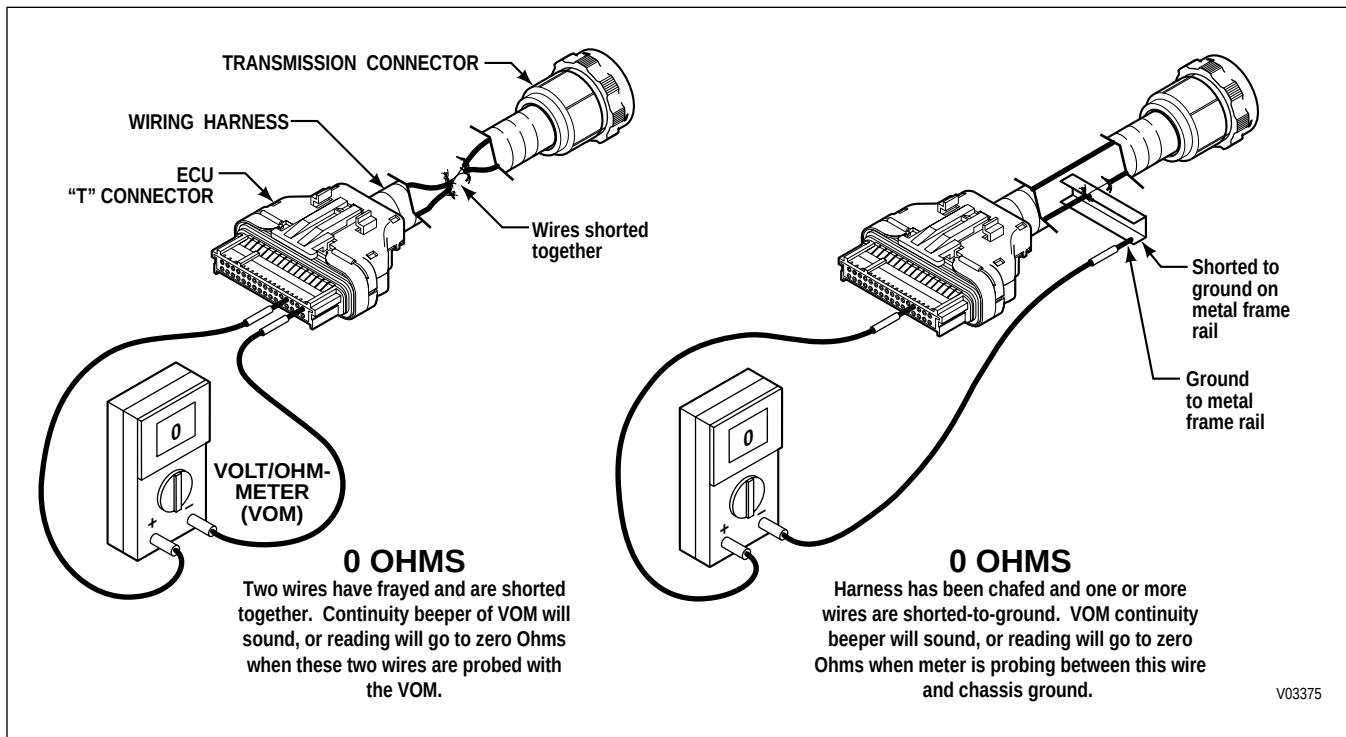

Figure 4–2. Short Between Wires or to Ground
- (2) On the opposite end of the harness, check the continuity of the jumpered pair. No continuity in a jumpered pair circuit (infinite resistance reading) indicates an open in the wire being tested. Locate and repair the damaged portion of the wire.
- b. If the continuity check is good (0–2 Ohms resistance), remove the jumpers. Check the harness for shorts between wires and shorts-to-ground by performing the following (refer to Figure 4–2):
- (1) At the ECU end of the harness, touch one VOM probe to one wire of the circuit being tested and touch the other probe to each terminal in the same connector, then touch the probe to chassis ground and to the transmission main housing. Do this for both wires in the circuit being tested.
- (2) If at any time the VOM shows zero to low resistance, or the meter's continuity beeper sounds, there is a short between the two points being probed — wire-to-wire or wire-to-ground. Isolate and repair the short.